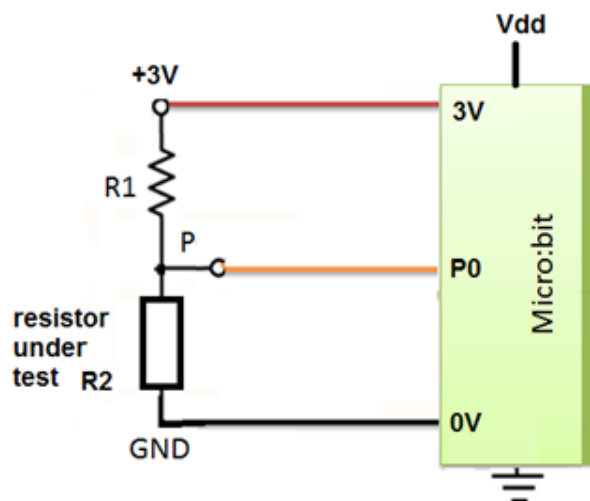

Fig.4 Connecting RGB-R module's voltage divider to micro:bit
For Levels 1 and 2, you can refer to Fig. 4 for the connections between the RGB-R module and micro:bit,. For level 3, you have to add back the connections to the RGB LED, similar to what you did in Lab 1. Since P0 is used to measure the voltage of P, you can use P1, P8, P2 for RGB LED. Also, remember to connect 3V pin to the ANODE (A).